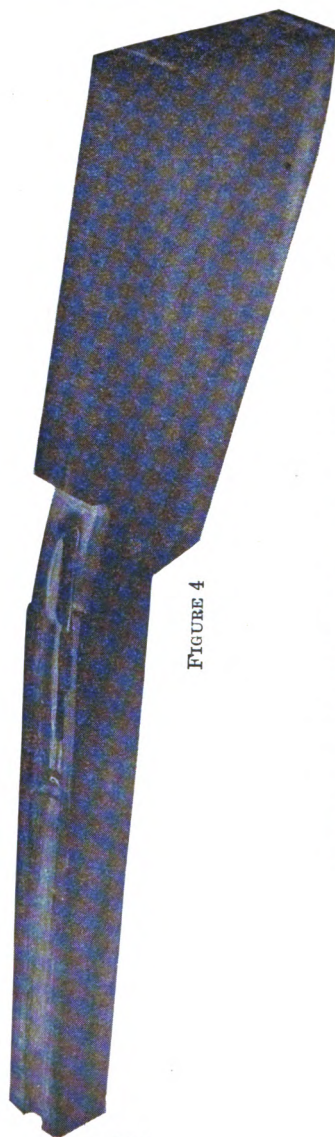

FIGURE 4
As you let in at the rear of the receiver you will gradually have to cut and round down the top surface of the wood between B and C (Fig. 2) to follow the upper surface of the upper tang in rear of the receiver bridge. Do not overdo this but go slowly, cutting down no more than is necessary to enable you to accurately maintain the fit of the edges of the cut in the blank. Fit well around the cut-off of the receiver, keeping the cut-off turned up (ON), and do not make the cut for the cut-off in its down position (OFF) until the stock is completely shaped up, as there is danger of splitting here when shaping up the stock. Fig. 4 shows appearance of stock at this stage.